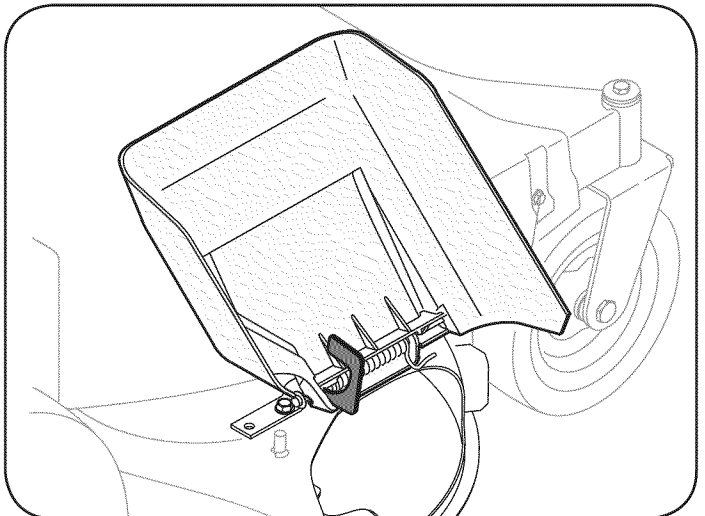

Figure 3
1. Locate the chute holder which secures the discharge chute in a vertical position, Figure 3.